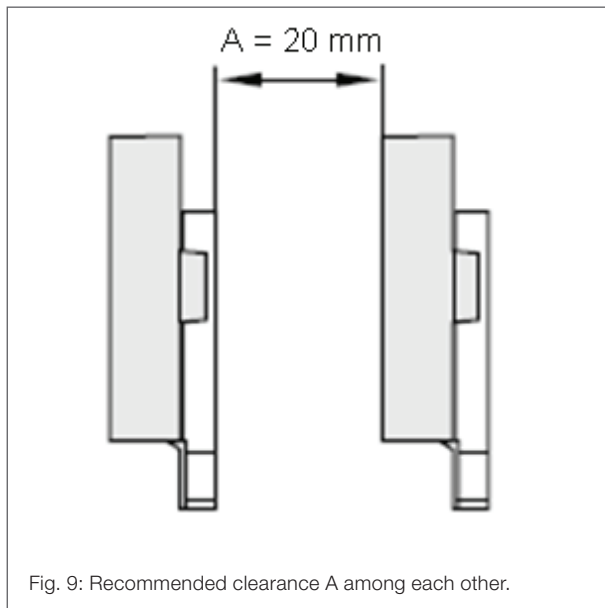

Fig. 9: Recommended clearance A among each other.
- For multiple sensor arrangements, it is recommended to place the sensors including their current feeds with a clearance (A) of at least 20 mm to each other as shown in Fig. 9. A smaller distance may cause cross talk to adjacent sensors. The primary current feeds in the PCB may not to be routed underneath a sensor.